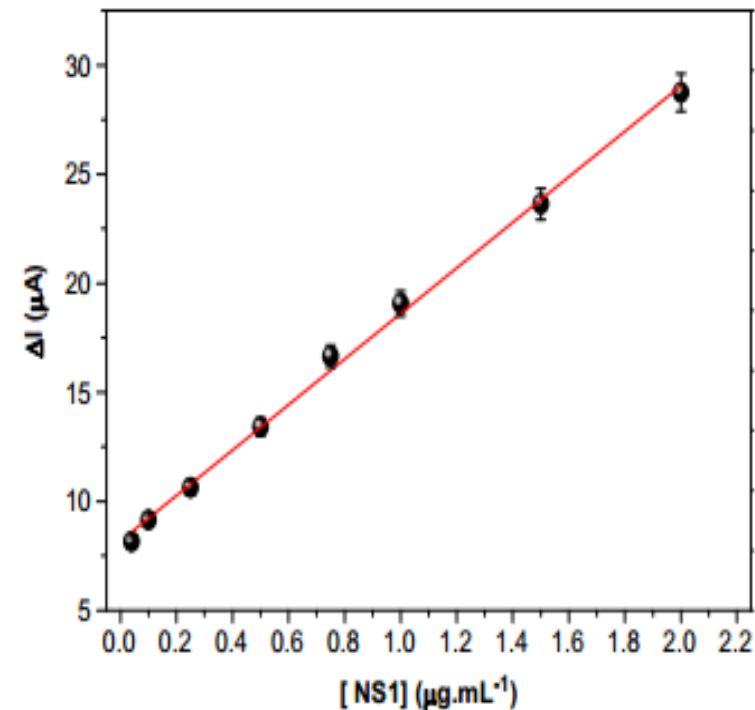

Fig. 5. Calibration curve of the immunosensor for NS₁ protein of dengue virus.
Fig. 5. Schematic representation of the assembly of the biosensor (A) and its electrochemically generated signals by CV (B), SWV (C) and EIS (D) after MWCNTs-COOH deposition (---), anti-miRNA binding (•••), and L-asparagine binding (---).